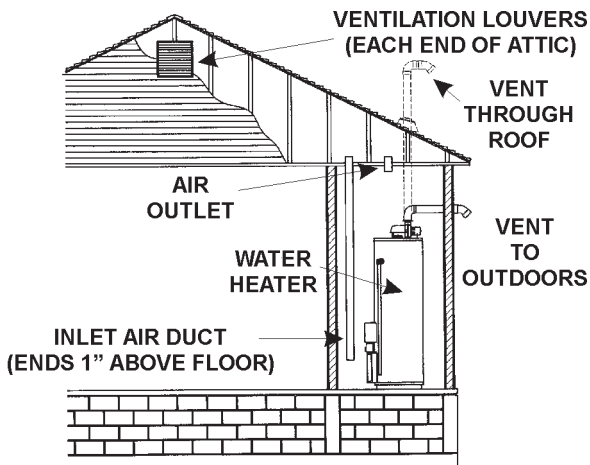

FIGURE 19.
- When communicating with the outdoors through vertical ducts, each opening shall have a minimum free area of 1 square inch per 4,000 BTU per hour (5.5 cm²/kW) of total input rating of all equipment in the enclosure, see Figure 19.